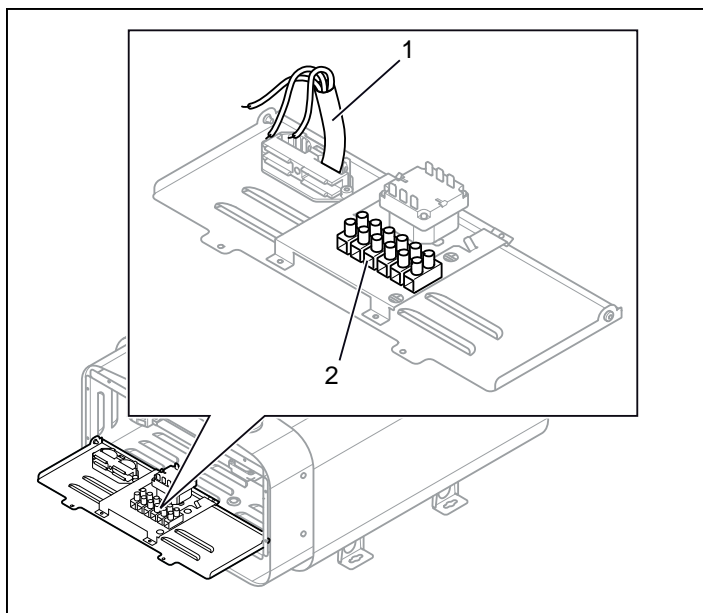

Figure 6: Circuit board
3. Connect the electrical cable (1) to terminal (2) (see Figure 6, Page 7) according to wiring diagram (see The section called Connection/wiring diagram, Page 8).